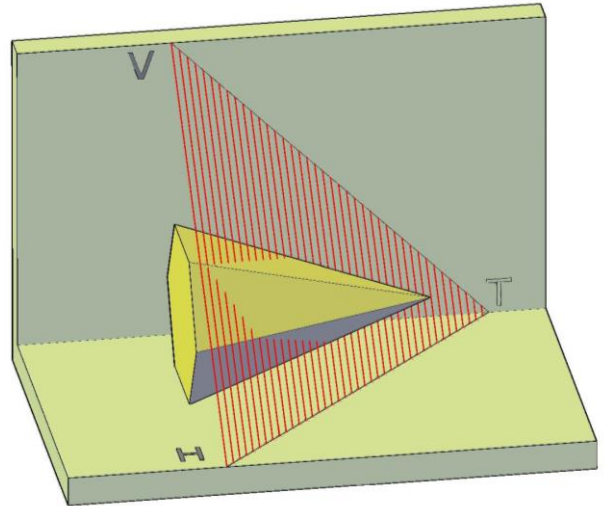

Figure 4a
4. The plan and elevation of a hexagonal pyramid and the traces, VT and HT, of an oblique plane which cuts it are shown in Figure 4b. The axis of the hexagonal pyramid is parallel to the horizontal plane and the vertical plane. The oblique plane cuts the pyramid as shown in Figure 4a.